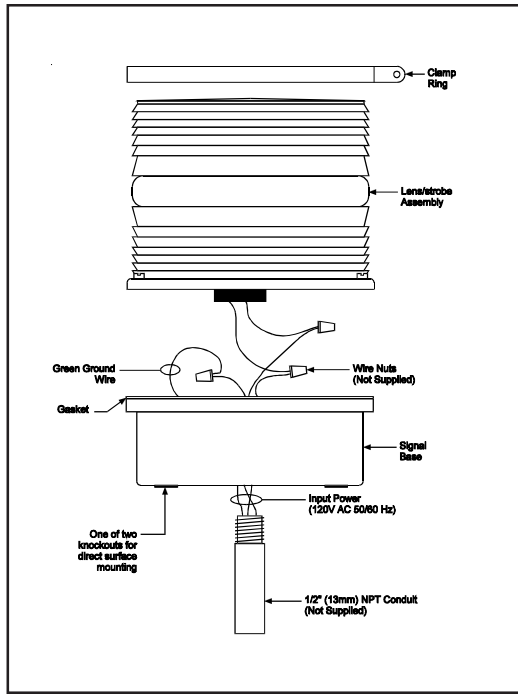

Figure 1. Mounting
1. Remove the screw in the clamp ring and remove the ring (Figure 1).